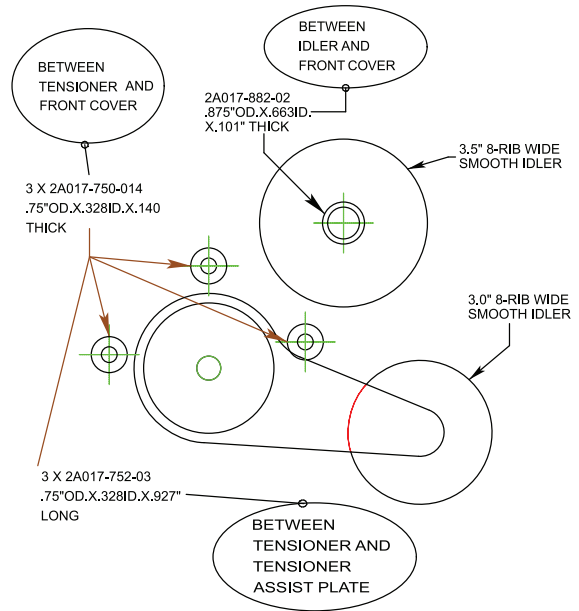

Fig. 6.1-C1 (optional)
- D. Remove the factory idler pulley located just above the spring tensioner location. Replace with the supplied 3.5" idler (4FU016-021) and .875"OD x .663"ID x .101" thick spacer (2A017-882-02) using the factory hardware. (See Fig. 6.1-a)